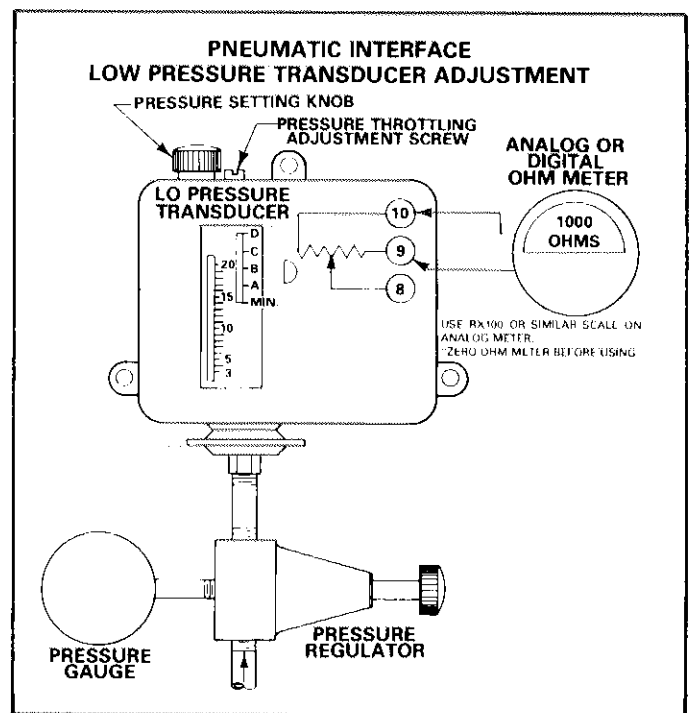

FIGURE 109
1 - Hook OHM meter to terminals 9 and 10 as shown in Figure 109.
- 1 - Hook OHM meter to terminals 9 and 10 as shown in Figure 109. Resistance should read 1000 + 10% OHMs. Note value read.